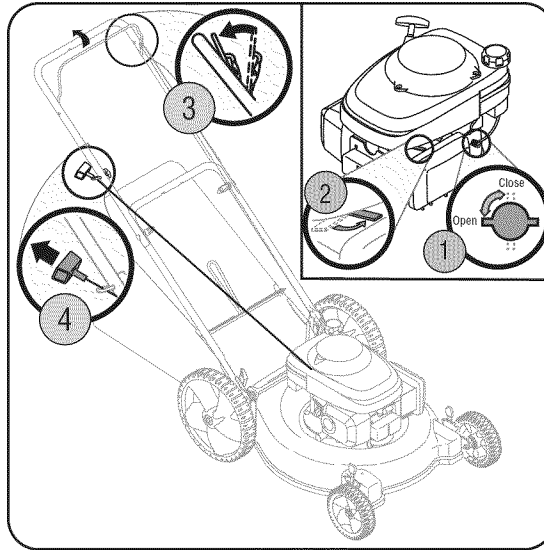

Figure 10
1. Place the fuel valve lever found on the left side of the engine into the OPEN position. See Figure 10 inset.
3. Standing behind the mower, squeeze the blade control against upper handle. See Figure 10.
4. Holding these two handles together firmly, grasp recoil starter handle and pull rope out with a rapid, continuous, full arm stroke. See Figure 10. Keeping a firm grip on the starter handle, let the rope rewind slowly. Repeat until engine cranks. Let the rope rewind each time slowly.